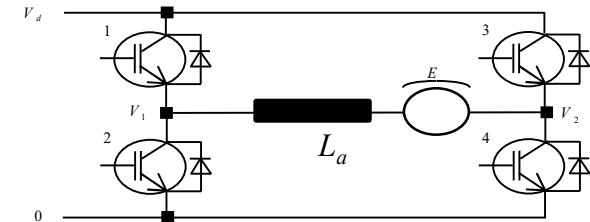

Fig 1
- c) Calculate the rms-current and the average current through one rectifying diode (see figure 1). Calculate the rectifier diode losses. The diode threshold voltage is 0,9 V and the differential resistance is 2.0 mohm. (2 p.)